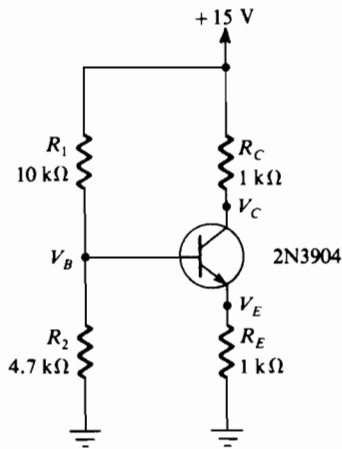

FIGURE 11-1 Schematic diagram of circuit.
1. Using a typical value for the base-emitter voltage of a silicon transistor (0.7 V), calculate the expected values of the quiescent dc base voltage (V_B), emitter voltage (V_E), collector voltage (V_C), and collector-emitter voltage (V_{CE}) for the voltage-divider bias circuit shown in the schematic diagram of Figure 11-1. Record these values in Table 11-1.
2. Now wire the circuit shown in the schematic diagram of Figure 11-1, and apply power to the breadboard.
1. For the circuit of Figure 11-1, I_E is approximately
2. For the transistor in the circuit of Figure 11-1, if β increases, V_B will
4. The collector saturation current for the circuit of Figure 11-1 is approximately
5. At cutoff, the collector-to-emitter voltage for the circuit of Figure 11-1 is